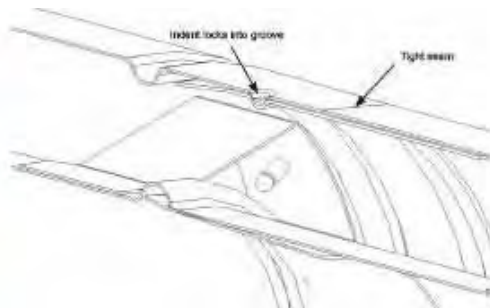
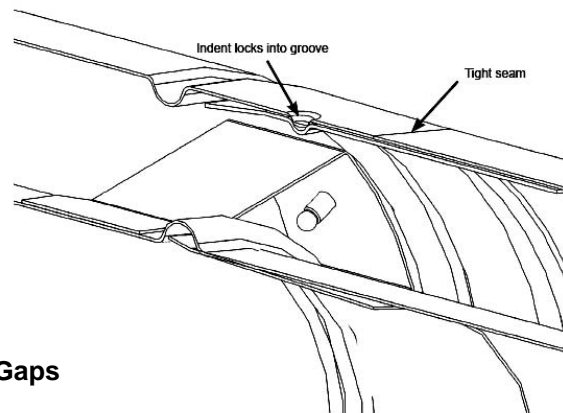

Figure 36 - Venting Indent Locks
Figure 38 - Venting - No Visible Gaps
See **Figure 36 - Venting Indent Locks** and **Figure 38 - Venting - No Visible Gaps.**
4. The outer pipe sections should not have a visible gap. See **Figure 38 - Venting - No Visible Gaps**.